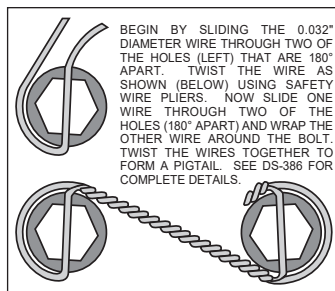
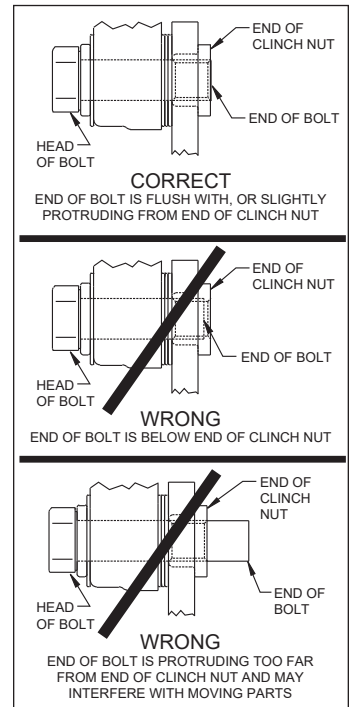

Figure 4. Safety Wire Diagram
Figure 5. Clinch Nut Engagement Diagram
**Assembly Instructions** (numbers in parenthesis refer to the parts list, on the preceding page and Figure 2): **CAUTION:** All mounting bolts must fully engage clinch nuts. Be sure to check that all bolts are either flush or protruding through flanged side of clinch nut after shimming, Figure 5.
- Orient the rotor (9) and the rotor adapter (8) as shown in Figure 2 and Photo 4. Attach the rotor to the adapter using bolts (10) and T-nuts (11). Using an alternating sequence, apply red *Loctite*® 271 to the threads, and torque to 220 in-lb. Safety wire bolts using standard 0.032 inch diameter stainless steel safety wire as shown in Figure 4. Refer to Wilwood's data sheet DS-386 (available at [www.wilwood.com/Pdf/DataSheets/ds386.pdf](http://www.wilwood.com/Pdf/DataSheets/ds386.pdf)) for complete safety wire installation instructions.
as shown in Figure 2. Initially place one .035" thick shim (20) on each bolt between the caliper and the bracket, Photo 8. Temporarily tighten the mounting bolts and view the rotor (9) through the top opening of the caliper. The rotor should be centered in the caliper, Photo 9. If not, adjust by adding or subtracting shims (20) between the bracket and the caliper. Always use the same amount of shims on each of the two mounting bolts. **NOTE:** The end of each bolt must be flush with or slightly protruding from the head of the clinch nut, as shown in Figure 5. If necessary place spare shims (20) between washer (19) and caliper mounting ear to achieve the proper clinch nut engagement. Once the caliper alignment and clinch nut engagement are correct, remove the bolts one at a time, apply red *Loctite*® 271 to bolt threads, and torque to 40 ft-lb. For an added measure of security, the bolts may be safety wired using standard 0.032 inch diameter stainless steel safety wire as shown in Figure 4. Refer to Wilwood's data sheet DS-386 (available at [www.wilwood.com/Pdf/DataSheets/ds386.pdf](http://www.wilwood.com/Pdf/DataSheets/ds386.pdf)) for complete safety wire installation instructions.